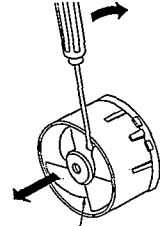

Fig. 2
2. Insert a screwdriver at the root of the cooling fan. Force it out of the motor shaft. (Refer to Fig. 2)